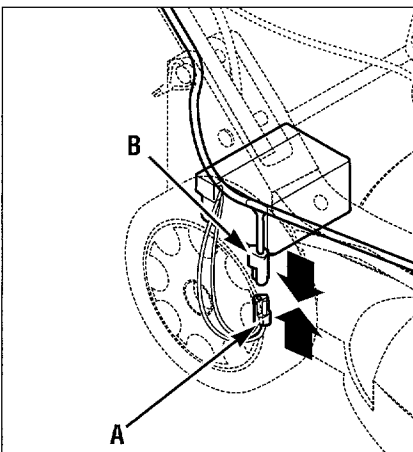

Figure 2-4: Battery wiring harness connection.
B. Two wires (A and B, Figure 2-4) are located inside the right rear corner of the deck.
C. Connect wire lead from battery (A, Figure 2-4) to wire lead from main wire harness (B). Position wires toward top of deck.